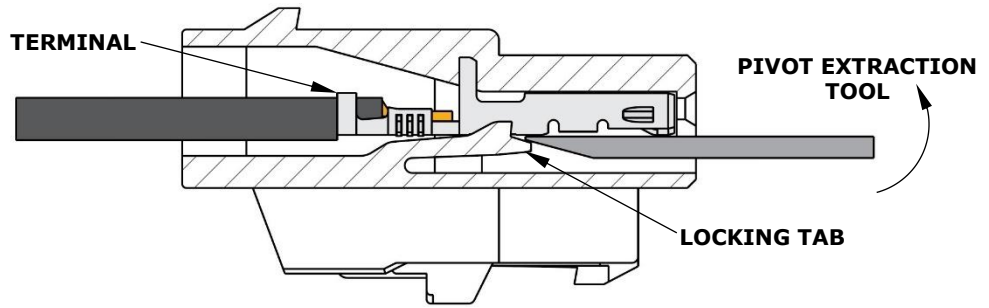

Figure 36
7. Pivot the extraction tool as shown in Figure 36 to depress the locking tab that holds the terminal in place.